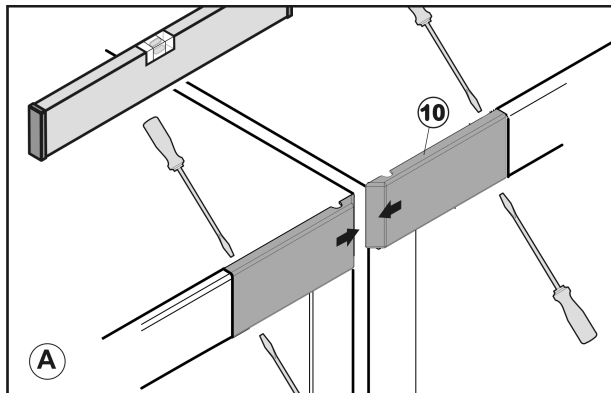

Fig. 43
- Loosen covers Fig. 43 (10) using a screwdriver and pull inwards to remove.